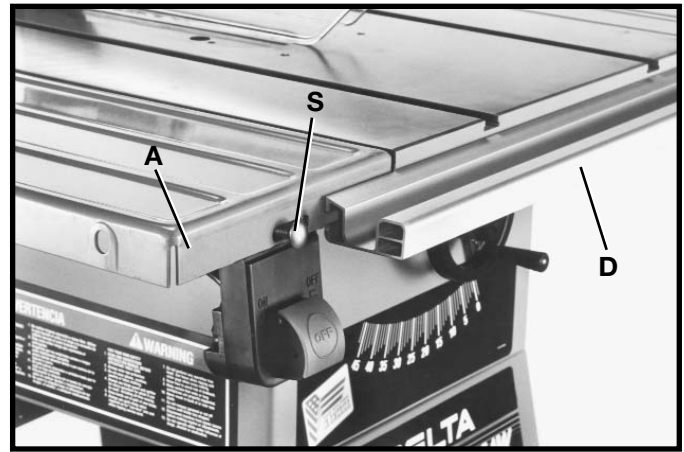

Fig. 6
2. Starting at the extreme right side of the right hand extension wing, carefully slide the guide rail (D) Fig. 6, onto the heads of the four carriage bolts (S), one of which is shown. **NOTE:** Make certain the heads of the carriage bolts are inside the channel at the rear of the guide rail. **IMPORTANT:** Slide the guide rail on the carriage bolts until the left edge of guide rail (D) is flush with the edge of the left extension wing (A).